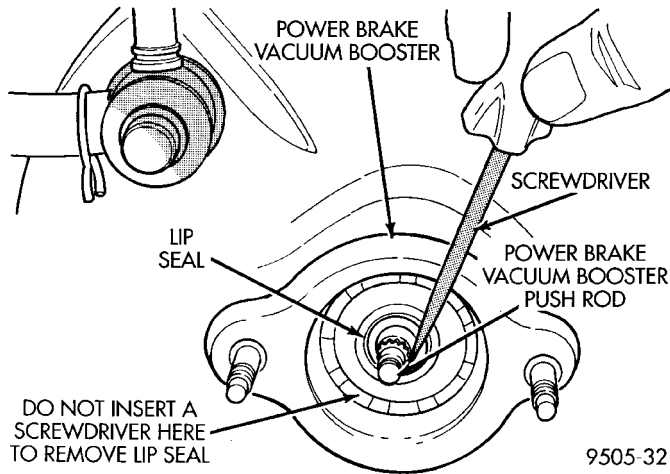

Fig. 105 Removing Seal From Vacuum Booster
CAUTION: On vehicles equipped with ABS, the master cylinder is used to create the seal for holding vacuum in the power brake vacuum booster. The vacuum seal in the front of the power brake vacuum booster (Fig. 105) **MUST** be replaced whenever the master cylinder is removed from the power brake vacuum booster.
(7) If vehicle is equipped with ABS, remove vacuum seal (Fig. 105) located in the front of the power
brake vacuum booster. Vacuum seal is removed by **carefully** inserting a small screw driver between the push rod of the power brake vacuum booster and vacuum seal (Fig. 105) and pry seal out of power brake vacuum booster. **Do not attempt to pry seal out of master cylinder by inserting a tool between seal and power brake vacuum booster.**